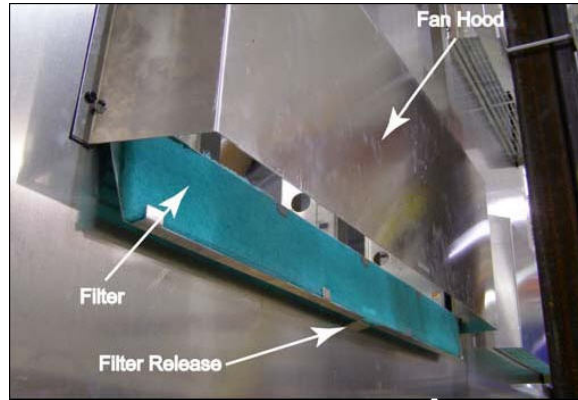

Figure 13: Filter Hood
1. Depress the filter release. Refer to **Figure 13**.